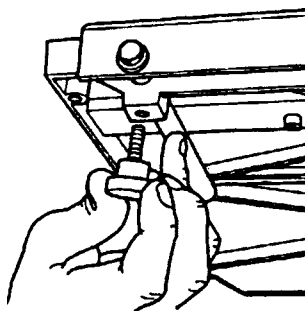

Fig. 3
4. Thread both knobs (5) into the table and tighten them. See Fig. 3.